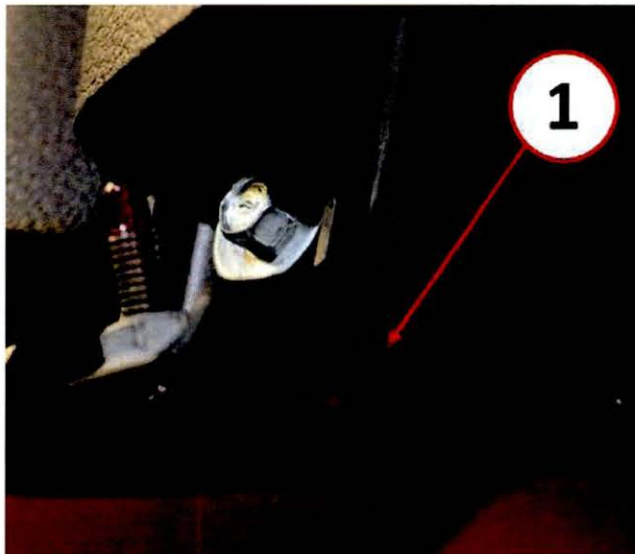

Fig. 2 Bracket Touching
3. Inspect for contact between instrument panel magnesium bracket and floor pan (Fig. 2).